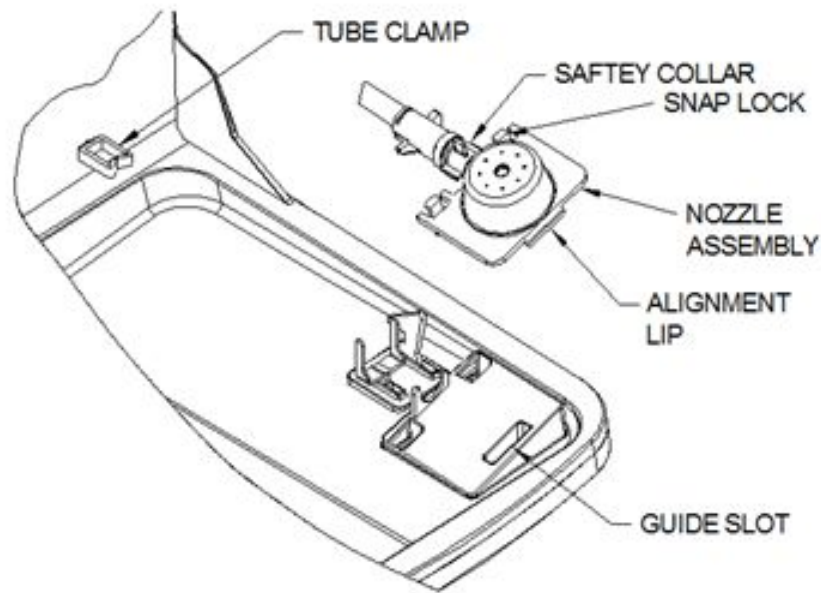

Figure 3: Parts Terminology
2. Once the tray is open, you will see two nozzle assemblies. (Refer to figure 3 for parts terminology.)